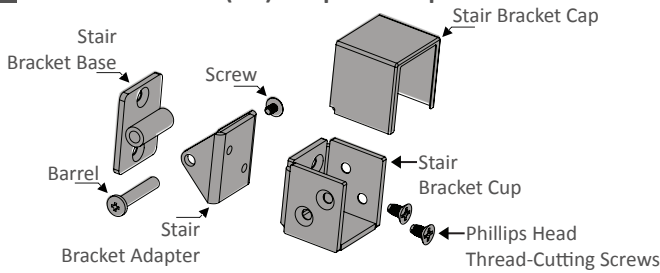

Fig. 4
4. Place UB-05 bracket base on previous top edge mark. Center the base on the post and use pencil to add marks for two screw hole locations. As shown in Fig. 4 below.
6. Tighten barrel & screw. As shown in Fig. 4 below.
7. Use pencil to mark top edge of bracket location on post. As shown in Fig. 4.
6. Tighten barrel & screw. As shown in Fig. 4.